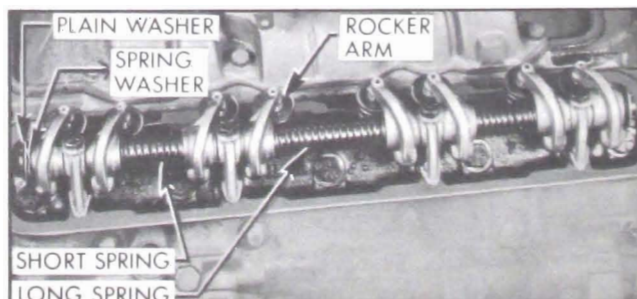

Figure 2-17—Rocker Arm and Shaft Assembly
3. Assemble springs, rocker arms and brackets on shaft as shown in Figure 2-17. Note that the long spring is at middle of shaft, the valve ends of all rocker arms slant toward